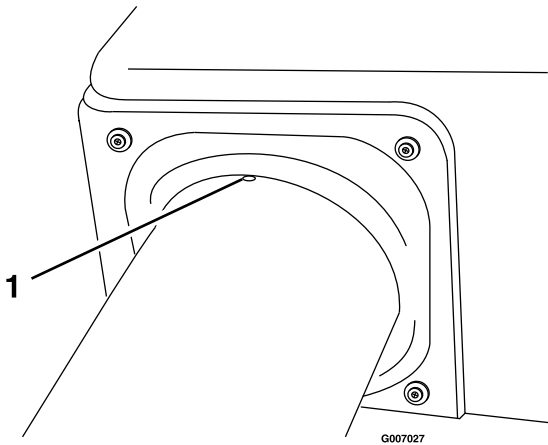

Figure 20
23. Align the dimple on the upper tube with the end of hopper seal and center between the two screws as shown in Figure 20.